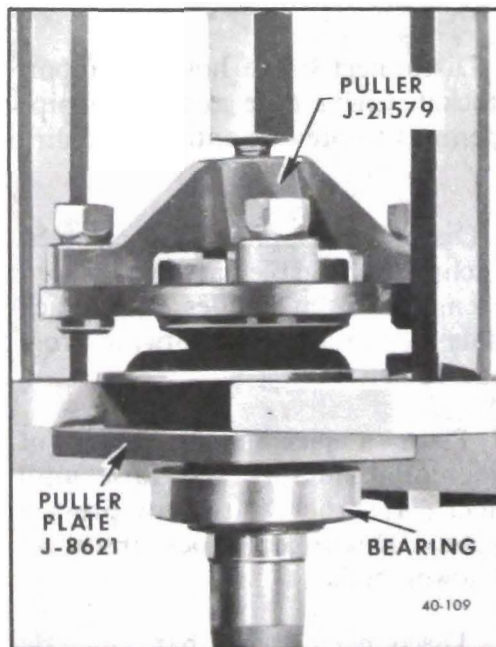
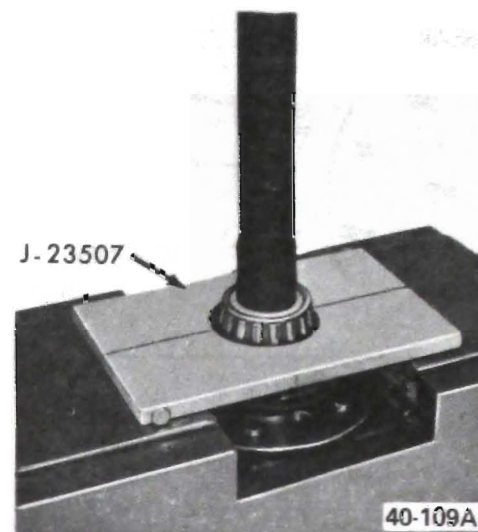

Figure 40-128 Removing Axle Shaft Bearing (46-48-49000 except Estate Wagons)
Figure 40-128A Removing Axle Shaft Bearing (Estate Wagon)
2. Press axle shaft bearing off, using Puller Plate J-8621 with Remover J-6525 on 46-48-49000 except Estate Wagons or Removal Plate J-23507 for Estate Wagons, either in a press or in a set-up using ram and yoke assembly. See figure 40-128 for 46-48-49000 except Estate Wagons and figure 40-128A for Estate Wagons.